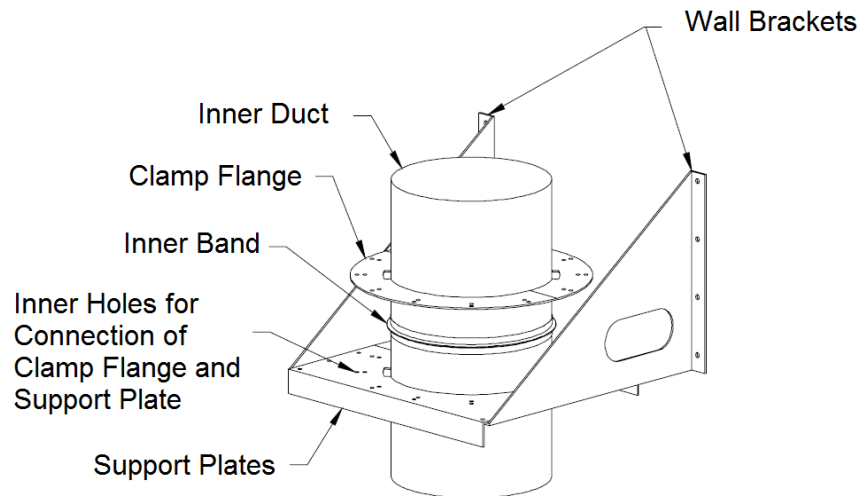

Figure 6. Wall Support, Part No. WS
- B. **VERTICAL SUPPORTS (Wall Support)** – Where the Pre-Fabricated Grease Duct (Item 1) is installed vertically along a rigid supporting construction, use the Wall Support, Part No. WS, depicted in Figure 6, with supplied components.